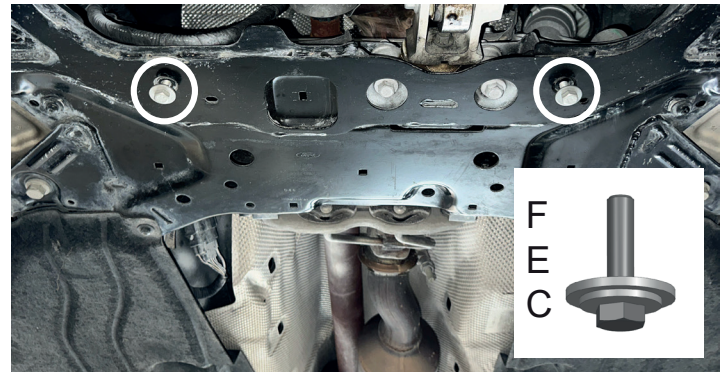

Fig. 5
5. Loosely install M6x40 bolts with M6 & M8 washers (items C,E,F) into installed insert nuts as shown in Fig 5. ***Do not tighten yet.**